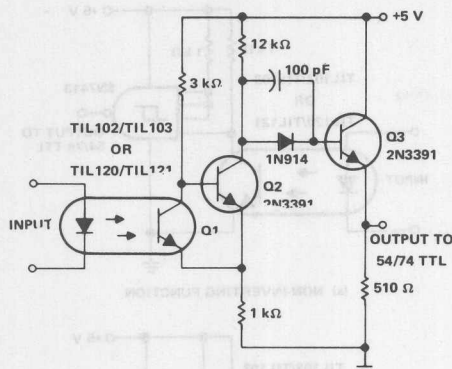
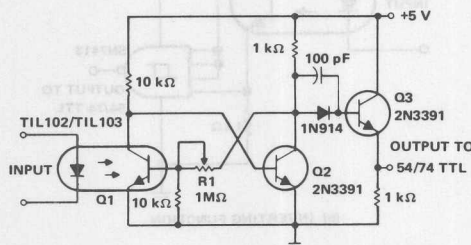

FIGURE 8. Optocoupler with Discrete-Component Schmitt Trigger for Driving 54/74 TTL
FIGURE 9. TIL102/TIL103 in a Schmitt Trigger for Driving 54/74 TTL
FIGURE 8. Two Counters with Identical Performance. Counter (A) Uses TIL306 Devices; Counter (B) Does not. Note how many less Components are Needed in the Counter Using TIL306 Devices.
Figure 8 is a photo of two counters with identical performance illustrating the difference in component count between a conventional counter consisting of SN7490, SN7475, and SN7447 TTL integrated circuits, resistors, with a display using TIL302 devices, and a counter using TIL306 devices. Both counters are specified to operate up to 15 MHz using a six-digit readout. The counter using
trigger as shown in Figure 8. For this circuit, regeneration or positive feedback is provided by the coupled emitters of Q1 and Q2. The output of this circuit is noninverting and is compatible with TTL logic.
Another Schmitt trigger utilizing discrete components that makes use of the base connection of the TIL102/TIL103 is shown in Figure 9. In this circuit, positive feedback is provided from the collector of Q2 to the base of Q1. Resistor R1 limits the base current to Q1 and keeps the device off when there is no signal at the emitter. As with the circuit in Figure 8, the output of this circuit is noninverting and compatible with TTL levels.